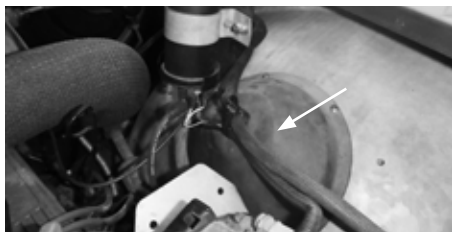

Fig. 1: Driver side shock cover
2. Locate shock tower covers inside the engine bay on the fender wells. Remove covers, it may be necessary to disconnect brackets or components in order to remove covers.(Fig. 1)